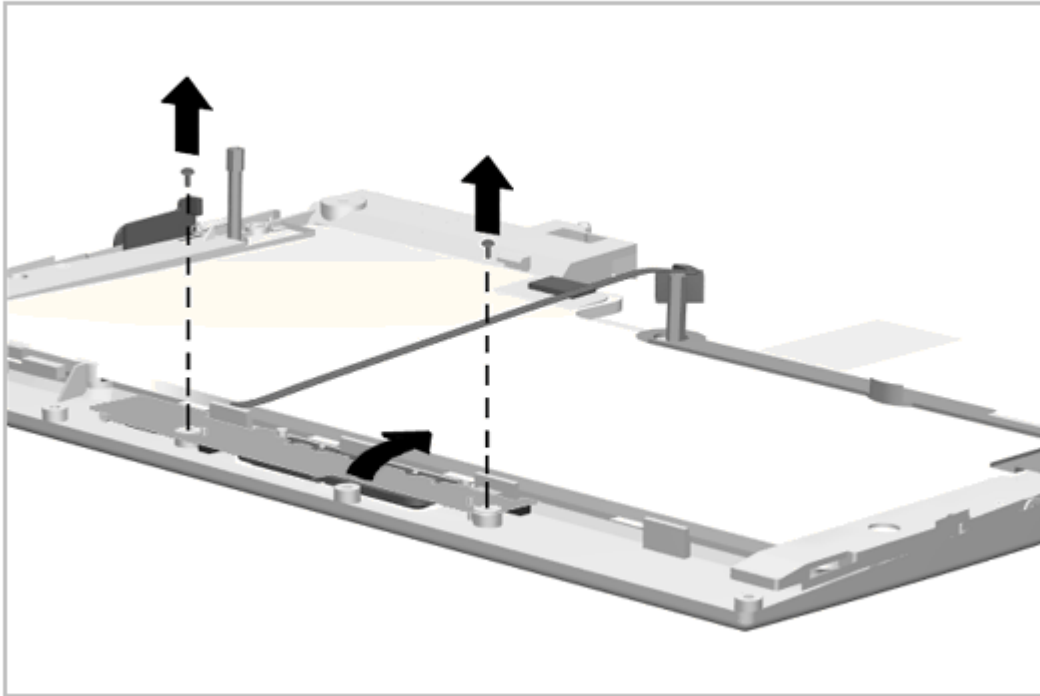

Figure 5-40. Removing the EasyPoint II Controller
2. Remove the two screws from the EasyPoint II controller (Figure 5-40).